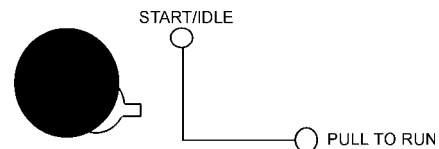

Figure 21. Throttle Handle (Run)
3. Pull the throttle handle and turn to right until the notch sets the handle out. (Figure 21).